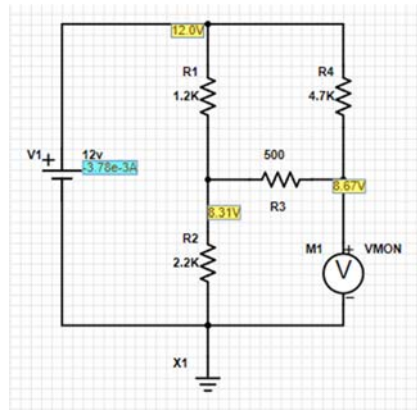

Fig.1
1. In this experiment, the circuit we are going to study is shown in Fig.1. Follow the steps (2 to 5) given below to input the circuit to PartSim.
3. Connect the components and voltage source by placing the cursor to one of the terminals of the resistor, voltage source or other components. Holding left button of mouse and dragging the cursor you will see a dashed green line extending from the starting point to where the mouse you moved. If you want to change the direction and bending the line, left click once and drag to your desired direction. Draw the whole circuit as shown in Fig.1. Remember to place a "ground" symbol which can be found from "Ports" under the "Components" menu.
4. Change the values and the label of the resistors in accordance to those given in Fig.1. That can be done by right-click each of the resistors and select "Edit Properties". The items you can change are displayed on the right-hand side of the window. (Note: SPICE simulator is able to recognize prefixes and units we often used. Capital and smaller letters are treated as the same; so "m" and "M" both mean "milli". For "mega", you should type "MEG" or "meg". No Greek letter; so use "U" or "u" for "micro".) You
2. Draw an equivalent circuit for Fig.1 if V_s is in short-circuited (what we did in step 10). The circuit should become much simpler now. You should be able to express R_{eq} in terms of R_1 , R_2 , R_3 , and R_4 based on the equivalent circuit. Check if the value is same as that calculated in Step 10 using the simulated currents or not.
4. In week 8 or later, you should be able to analysis Fig.1 by applying KVL or KCL for nodal or mesh analysis. By that time, check if the SPICE simulation results agree with your calculation results or not. You can always verify you calculation results with the SPICE simulation.